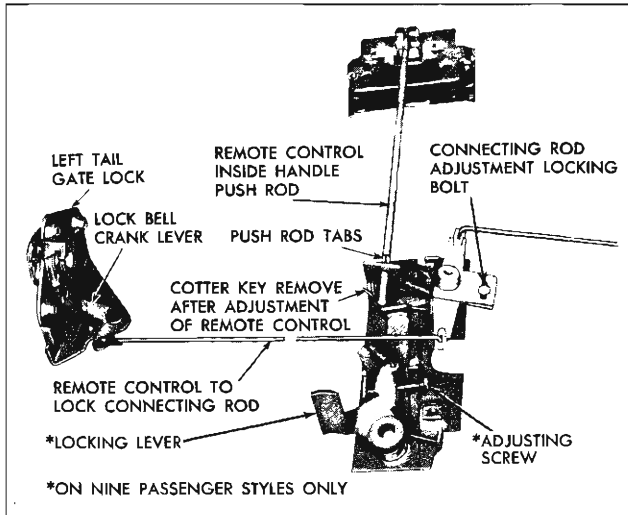

Fig. 5-17 Tail Gate Lock
control connecting rod from lock remote control (Fig. 5-17).
6. To attach lock connecting rod to remote control lever, loosen connecting rod adjustment locking bolt at remote control (Fig. 5-17) then install rod to lever and tighten locking bolt.
to raise window in tail gate to gain access to lever. Adjust remote control upward until tabs on handle push rod (Fig. 5-17) just contact remote control lever.
2. Disengage clips securing lock connecting rods to remote control (Fig. 5-17) and detach connecting rods from remote control.
2. Adjust remote control up or down until tabs on push rod (Fig. 5-17) just contact remote control lever.
3. To attach lock connecting rods to remote control lever, loosen connecting rod adjustment locking bolt (Fig. 5-17); then, install rods to levers and tighten locking bolt.
IMPORTANT: If a new remote control is being installed, remove cotter key (Fig. 5-17) after adjustment, to free locking lever.
6. On nine-passenger styles, lower window to approximately 1/2" up from full down position; then adjust remote control locking lever adjusting screw (Fig. 5-17) so that lever is just contacting window lower sash channel frame. Check operation of remote control inside handle - handle should remain locked until window is lowered to within 1/4" of the full down position.